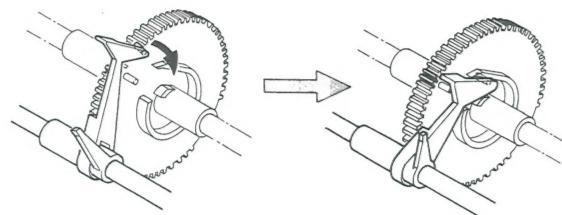

Fig. 18
3) Insert the hub of the lever (gear stopper) into the cam of each gear. (See figure 18)